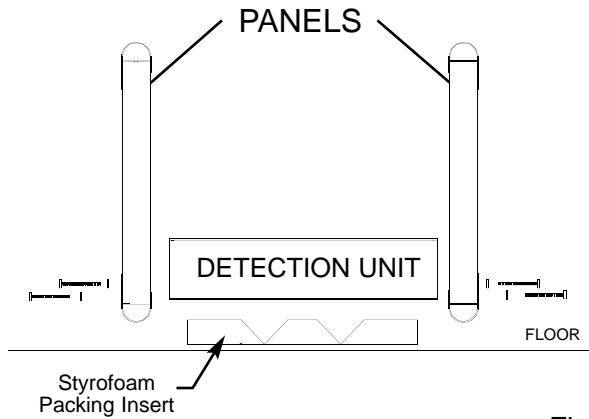

Figure 3-2
3. Place any one of six packing inserts on floor as shown in Figure 3-2.